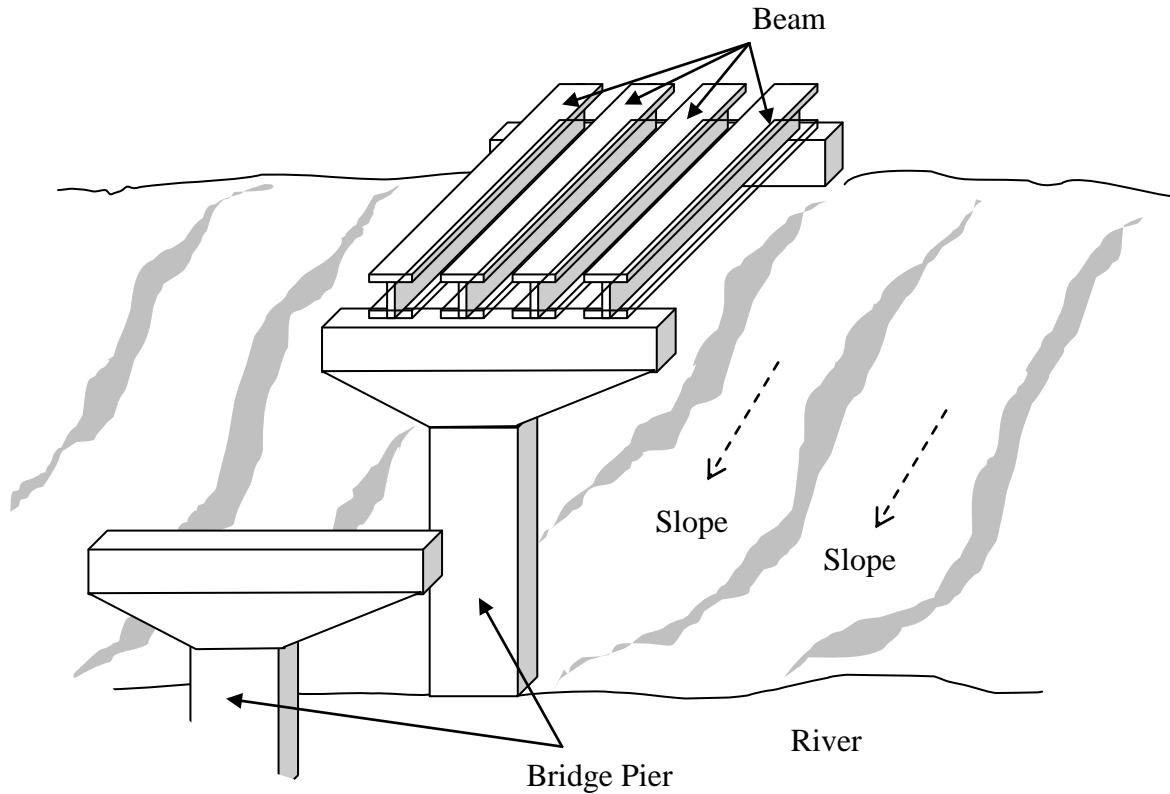

Figure 3.0
3. (a) During construction of a bridge across a river as shown in Figure 3.0, the load on each beam is assumed to be w kN/m, which includes the weight of the beam. The beams are simply supported at piers with a span length of L meter. The beam is also subjected to a concentrated load of P kN at mid span and a clockwise moment of M_0 kN.m at left-hand support of the beam. Determine the vertical deflection at mid span of the beam in terms of w , P , M_0 and L using the energy method.